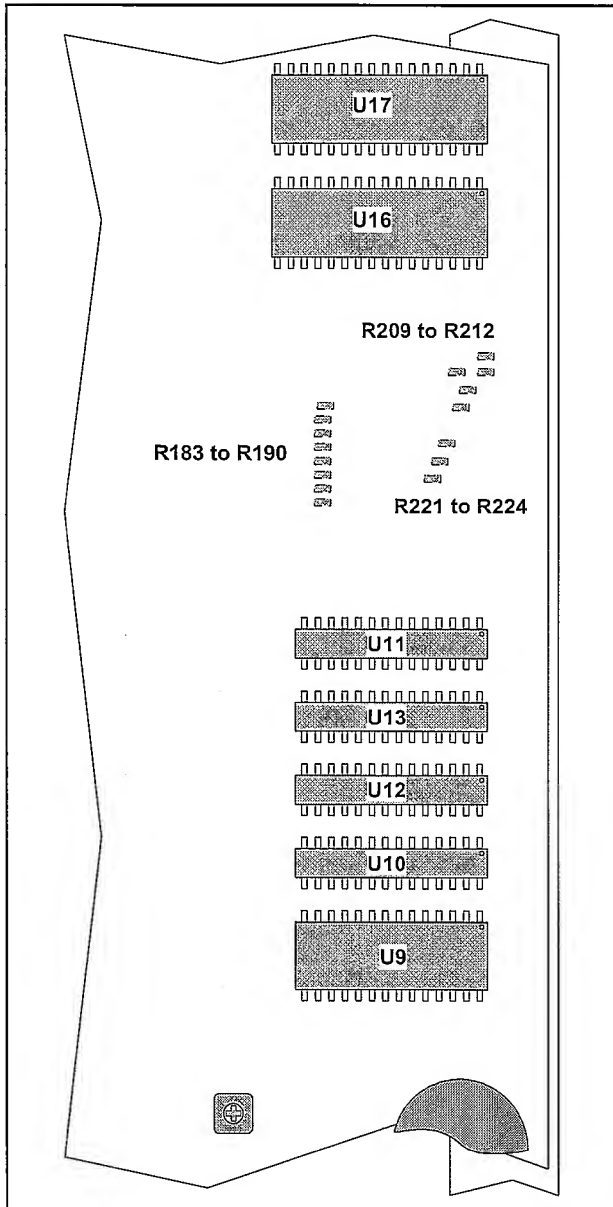

Figure 5-12 Pinning diagram for U9 to U16.
- Check all signals on U9 to U13, U16 and U17. The signals should not be stuck high or low. Use test pin P5 to trigger the oscilloscope, see Figure 5-12.